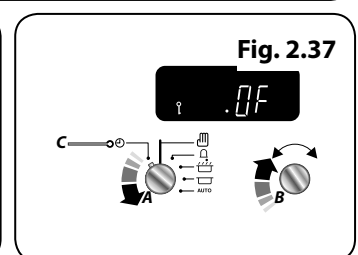

Fig. 2.37
3. Continue to hold the **Timer (A)** knob onto the **Clock (C)** setting, turn the **Adjusting (B)** knob clockwise, the 'OF' and the 'Key' symbol will display (**Fig. 2.37**). The left-hand oven is now locked.
4. To activate repeat steps 1 to 2 and continue to hold the **Timer (A)** knob onto the **Clock (C)** setting, turn the **Adjusting (B)** knob clockwise to 'ON', the 'Key' symbol will disappear and the left-hand oven is enabled.